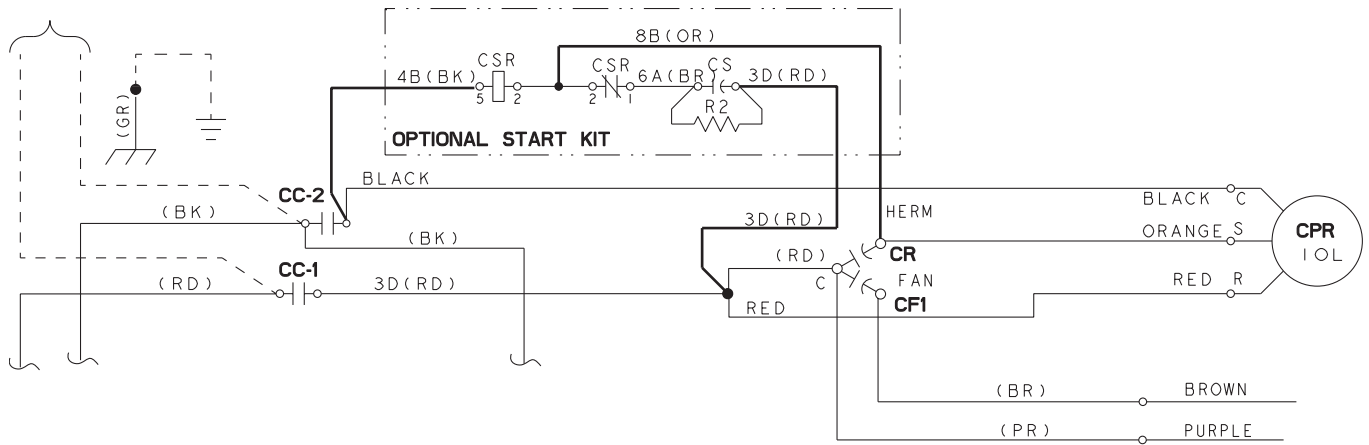

Figure 3. Wiring Diagram for Dual Capacitor Models
3. Connect the three (3) wires from the start kit to the Control Box wiring as follows:
- Use the wiring diagram in Figure 3 for Dual capacitor models.